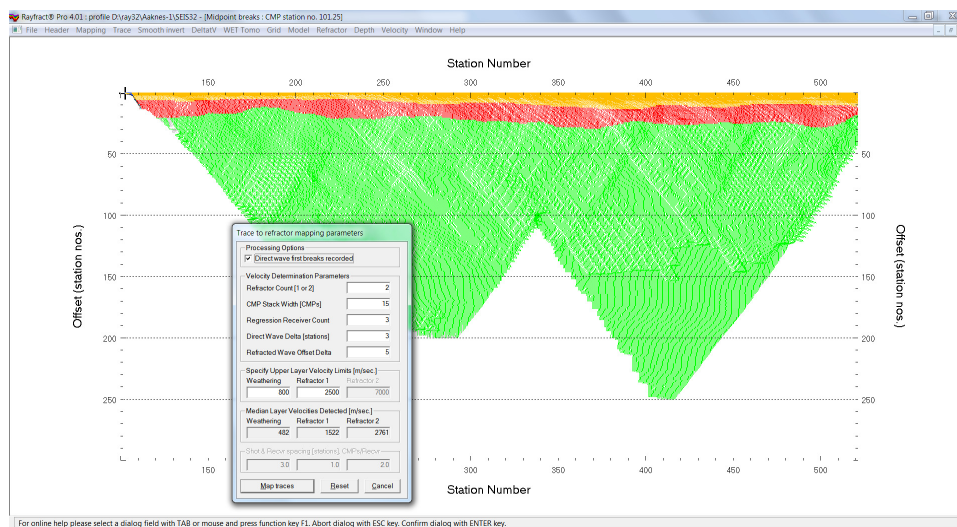

Fig. 9 : map traces to refractors in *Refractor|Midpoint breaks*. Press ALT+M to display mapping dialog. Edit as shown and click button **Map traces**.
- map traces to refractors in *Refractor|Midpoint breaks* with **ALT+M** (Fig. 9)